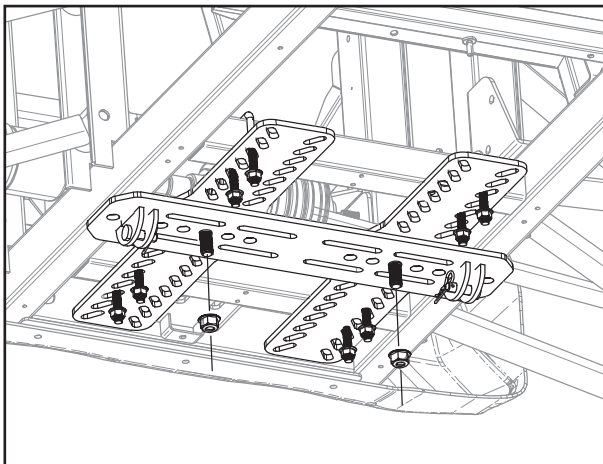

Fig. 3
4. Place the Horizontal Mounting Bracket (7) onto the two Carriage Bolts (3). Place two Flanged Locknuts (4) onto the Carriage Bolts (3), then thread the Locknuts (4) so they are touching the Horizontal Mounting Bracket (7), but do not tighten (Fig. 3).
5. Tighten the eight Locknuts (8) on the U-Bolts to between 192 and 220 inch-pounds.
6. Use a framing square and check that the Horizontal Mounting Bracket (7) is perpendicular with the frame of the vehicle. Tighten the two Locknuts (4) to between 55 and 65 foot-pounds.
7. With the Push Bar (26) in the correct orientation, place the ears of the Push Bar (26) onto either the front or rear slots on the Horizontal Mounting Bracket (7). Pin in place using the quick release Clevis Pins (5), and install the Hairpins (6) on both Clevis Pins (11) to prevent them from falling out.
STEP 6: Install the Blade onto the Push Bar. Place a Spacer (24) into the holes on each side of the Pushbar (26), then align the holes on the Main Blade (27) and insert a Bolt (22) with a Flat Washer (23) from the outside. Ensure the Spacer (24) is seated correctly into the hole. Place a Flatwasher (23) onto the bolt, then thread the Locknut (25) onto the bolt, but do not tighten. Repeat this for the other side. Tighten these two Bolts (22) and Nuts (25) to between 55 and 65 foot-pounds. Check that the Blade (16) can be pitched forward and back. If not, then check the position of the Spacer (29). Select the desired position for the pitch stop Bolt (21) and secure in place using Locknut (20). Repeat for the other side.